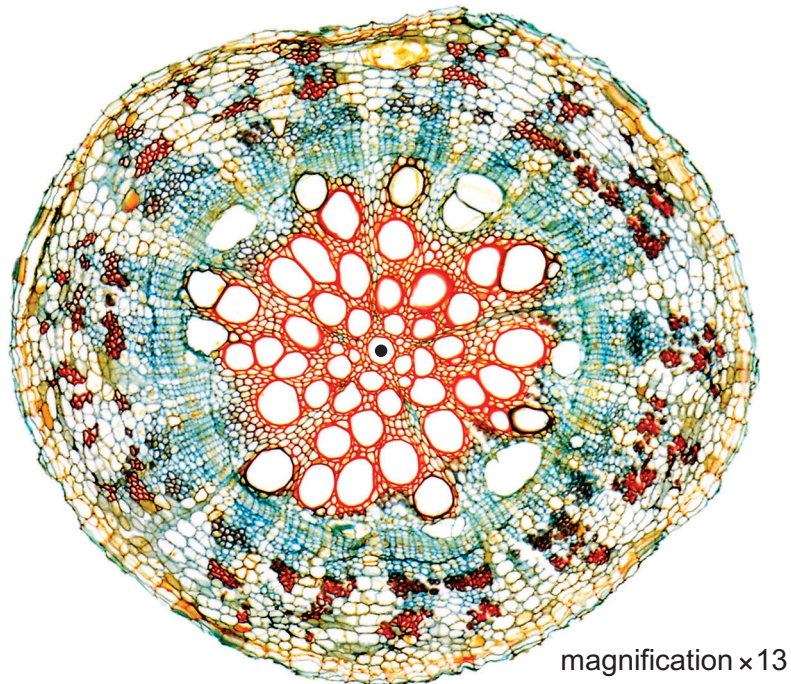

Fig. 2.2
(c) Fig 2.2 is the same photomicrograph as that shown in Fig. 2.1.
(i) Determine the mean actual diameter of the section in Fig. 2.2.
- draw lines across the diameter of Fig. 2.2